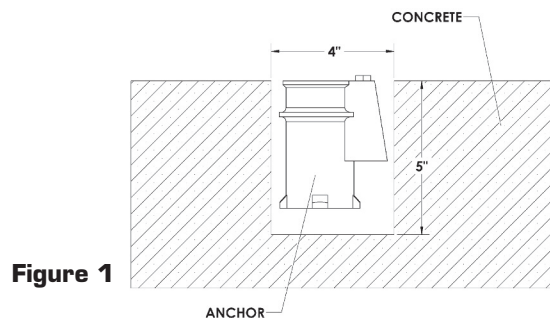

Figure 1
- Mark and drill a minimum 4" diameter hole at least 5" deep. **(See Figure 1)**